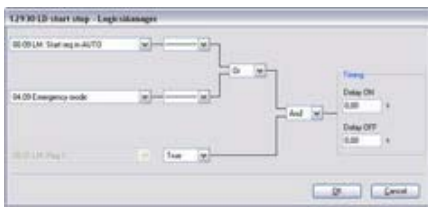

Fig. 182: LogicsManager function "LD start stop"
3. ➤ Configure the LogicsManager function "LD start stop" as shown in (Fig. 182) to enable LDSS if a start request in automatic operating mode or emergency mode are enabled.